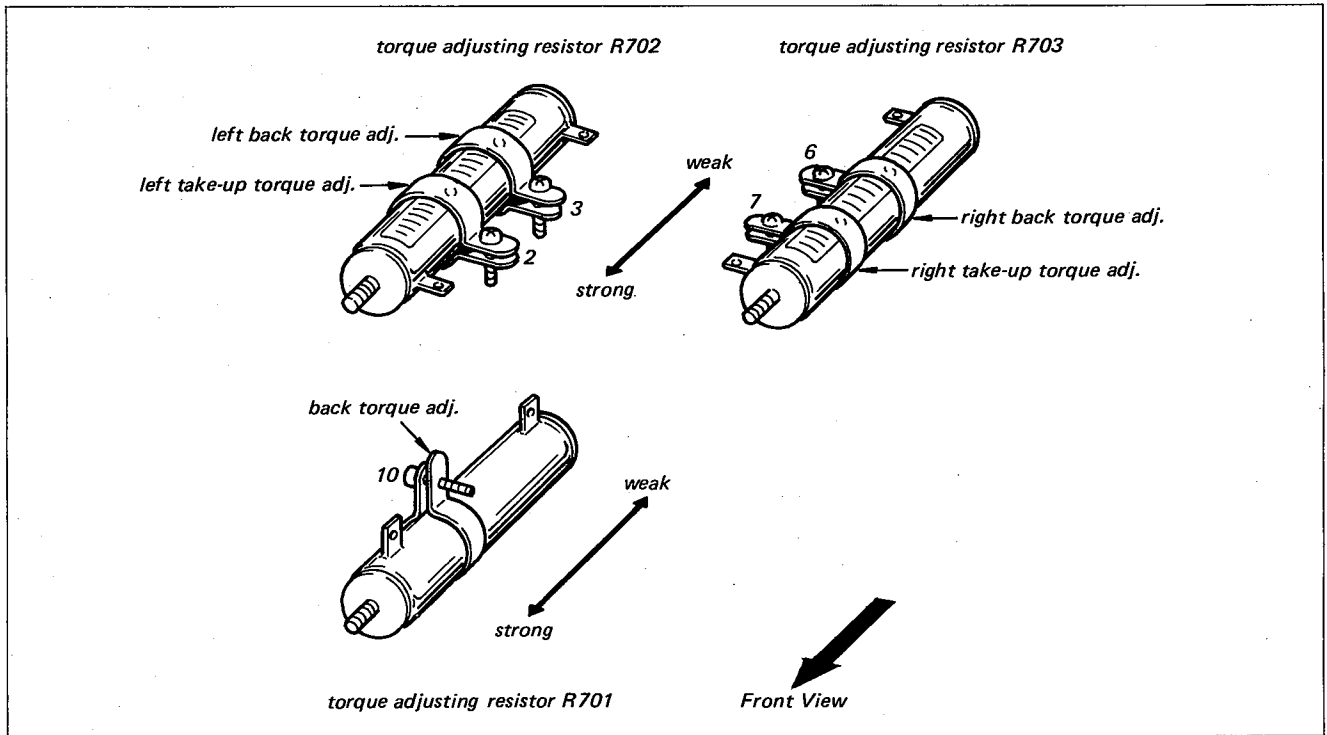

Fig. 3-3 Reel motor torque adjustment
- ① Left Back-Tension Torque Adjustment
- 4) Adjust a slider band 3 of the left torque adjusting resistor R702 (shown in Fig. 3-3) for a reading of 70 g.
- ② Right Back-Tension Torque Adjustment
- 4) Adjust a slider band 6 of the right torque adjusting resistor R703 (shown in Fig. 3-3) for a spring scale reading of 70 g.
- ① Left Take-up Torque Adjustment
- 4) Adjust a slider band 2 of the left torque adjusting resistor R702 (shown in Fig. 3-3) for a spring scale reading of 90 g.
- ② Right Take-up Torque Adjustment
- 4) Adjust a slider band 7 of the right torque adjusting resistor R703 (shown in Fig. 3-3) for a spring scale reading of 70 g.
- 2) Adjust the slider band 10 of torque adjusting resistor R701 (shown in Fig. 3-3) for a spring scale reading of 20 g.